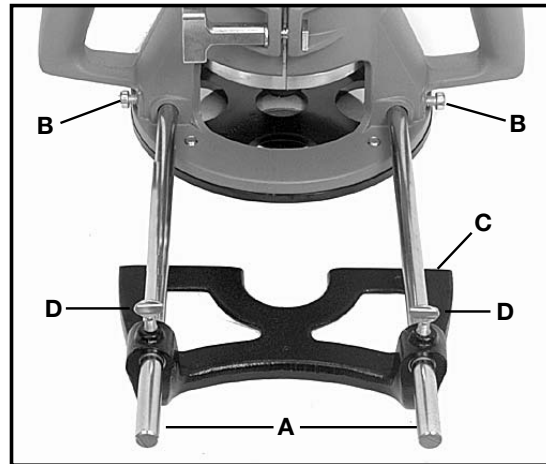

Fig. 6
To assemble, insert guide rods (A) in holes in base, Fig. 6, and secure with screws (B). The guide (C) is adjusted on the rods and secured in desired position with thumb screws (D).